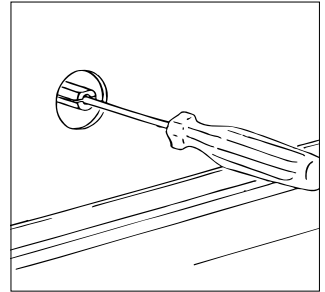

Fig. 13 Adjusting the minimum burner setting: four-function models
- 4 Using a small flat screwdriver, turn the screw (see Figs. 13 or 14) to the correct regulation.